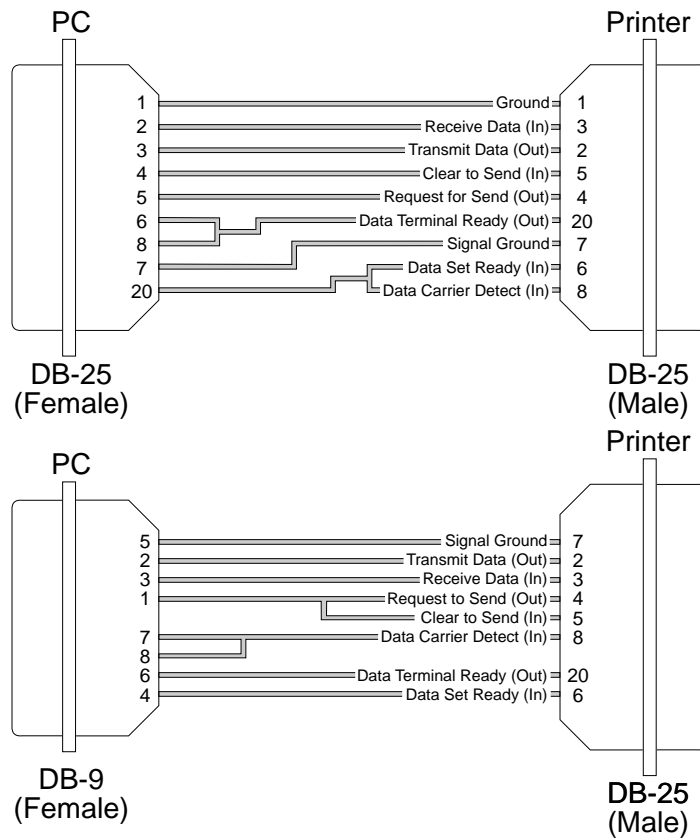

Figure 2.21 Serial Cable Pin-outs
You need a standard null-modem serial cable to connect your host and printer (fig. 2.21). The serial port on the rear of the printer uses a 25-pin (DB-25) connector. The serial port on your host uses either a 25-pin connector or a 9-pin connector.
2. Plug the 25-pin (DB-25) male connector end of the serial cable into the serial port on the back of your printer (fig. 2.21).